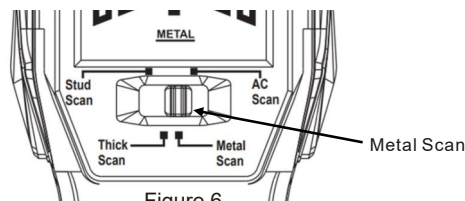

Figure 6
1) Selecting detection mode, move switch to Metal Scan (Figure 6)